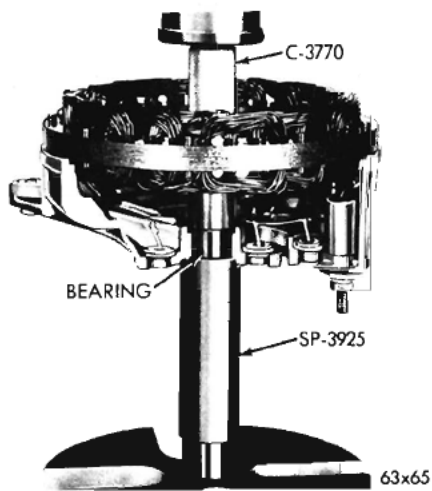

Fig. 29—Removing the Rectifier End Shield Bearing
(13) The needle roller bearing in the rectifier end shield is a press fit. If it is necessary to remove the rectifier end frame needle bearing, protect the end shield by supporting the shield with Tool C-3925 when pressing the bearing out with Tool C-3770A (Fig. 29). Make sure the notches in the tool clear the raised section of the heat sink.